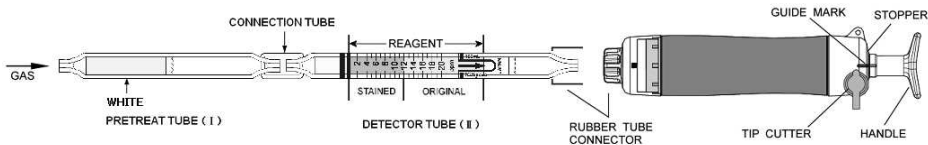

Fig.1
- ① Break both ends of the pretreat tube (I) and detector tube (II), and connect each end of the pretreat tube and detector tube with connecting tube as shown in Fig. 1.
- ② Insert the detector tube into the aspirating pump securely as shown in Fig.1. (Arrow mark shall point to the pump.)
- ③ Align the guide marks on the shaft and stopper of the aspirating pump.
- ④ Pull the pump handle at a full stroke until it locks and wait for 1 minute or until the completion of sampling is confirmed with the flow indicator of the pump. (See descriptions about the flow indicator in the instruction manual of the pump.)
- ⑤ On completion of sampling, read the scale at the maximum point of the stained layer.
- ⑥ When the concentration is below the scale range, 5 pump strokes can be used to determine concentrations of 0.4 to 4 ppm. At this point, turn the handle right or left by 1/4 (90°), push it toward the pump without removing the detector tube from the pump and then repeat step ③~④ four times more.